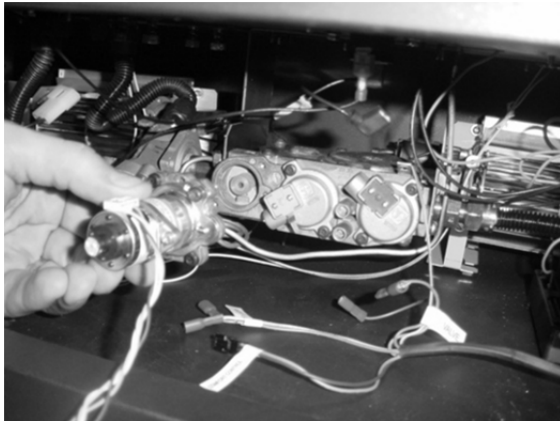
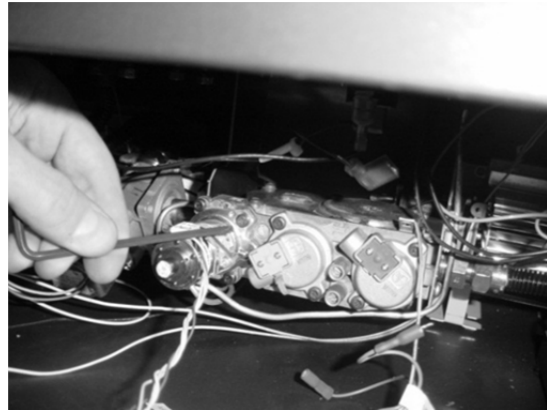

Figure 14
Figure 15
- 10 The stepper motor (adjustable regulator) has an installation sheet included with it – make sure to follow all of the directions. Place the stepper motor on the gas control valve (see Figure 14) – **MAKE SURE IT IS CORRECTLY ORIENTED**. Secure using the screws included with the motor (see Figure 15) – tighten to 25 Lb-inches. Leak test this area after installation to verify proper installation.